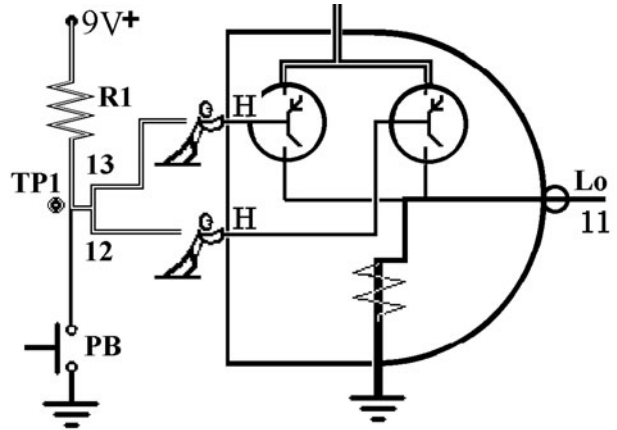

Figure L19-2
- Figure L19-2 shows that the voltage through R1 is putting pressure on pins 12 and 13, the connected pair of inputs to one of the 4011 NAND gates. The input voltage is seen as a high.